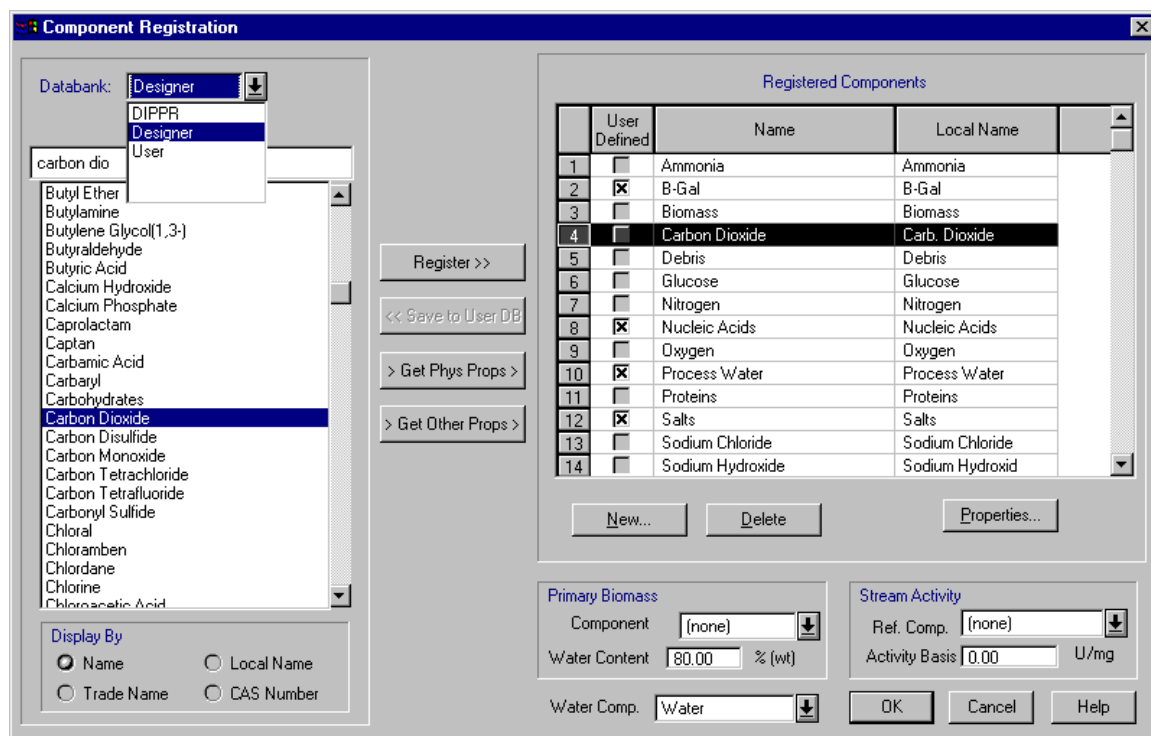
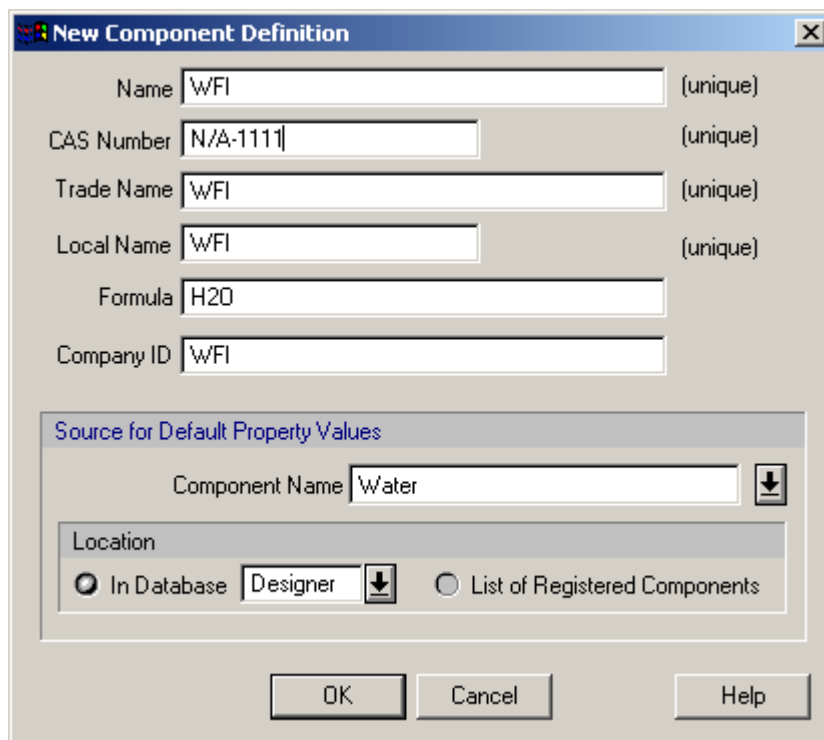

Figure 3.1: Pure component registration dialog.
Figure 3.2: Definition of a new component.
When describing a new design case, you must register all components that will appear anywhere in the flowsheet. It is not necessary to provide all this information in the very beginning, because the component list of a design case can be modified at any time. However, as good practice, it is recommended that you consider the components that will appear in your flowsheet and introduce most of them early on, as several of the processing step's initialization parameters depend on the list of components present in the flowsheet (e.g., component separation factors, reaction stoichiometric coefficients, etc.) Components can be registered through the dialog that appears when you select the **Tasks: Register / Edit Pure Components...** menu item from the main menu (Figure 3.1).
Components can either be imported from the program's component databanks or defined for the first time for the needs of the specific design case. As indicated before, there are currently up to three different databanks from which the user can draw components: the Designer databank, the User databank and the DIPPR databank. The contents of the selected component databank are shown in the list box at the left of the dialog (see Figure 3.1). The components in the databank are indexed and can be listed in one of four ways:
1. Locate the component in the registration table, and click on the box that displays the row number of the component (e.g., Number 4 for Carbon Dioxide in Figure 3.1). Notice that when you click on it, the whole row that describes the component is highlighted. Now the component is considered selected.
1. Click on **New...** (See Figure 3.1) and fill in the fields of the dialog that comes up (see Figure 3.2).
3. From the table of registered components, select the desired component (whose properties are to be updated) by clicking on the button at the beginning of that component's row (e.g., Number 3 for Carbon Dioxide in Figure 3.1).
3. Select the desired component in the table of registered components by clicking on the button at the beginning of that component's row (e.g., Number 3 for Carbon Dioxide in Figure 3.1).
3. Click on **New...** and fill in the fields for the new component's name, CAS number, trade name, formula and local name (in a dialog similar to that of Figure 3.2.) Make sure you have typed the name of the component correctly. Once the component is introduced, this field cannot be edited again; the only way to modify it would be to completely delete it from the databank and introduce it again under a new name. All fields (except the formula) must contain strings that are unique across the whole databank. The system will not allow you to introduce a chemical that presents any index conflict with existing chemicals in the databank.